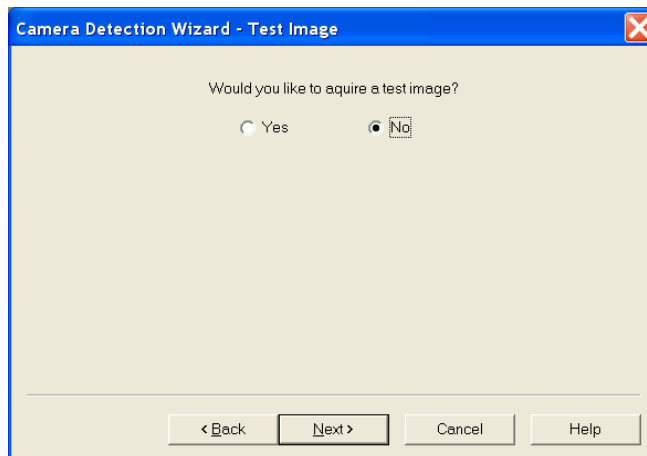

Figure 13. Camera Detection Wizard - Test Image dialog
4. When you have finished with these selections, you will see the **Test Image** dialog (Figure 13). The default selection is **No**. If you select **Yes**, you must make sure that the system is connected to the host computer and that the camera system is turned **ON** before you click on the **Next** button.